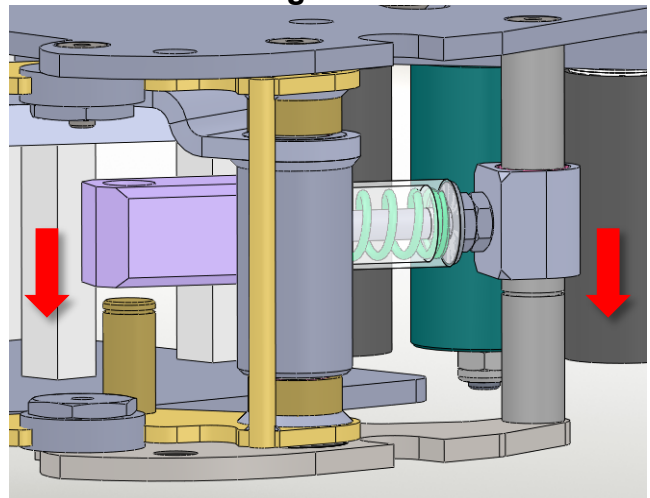

Figure 10-10
4. Press the spring barrel against the spring mandrel until it is ready to slide back on the short shaft. See Figure 10-10. Move the whole sub assembly back to its original position.